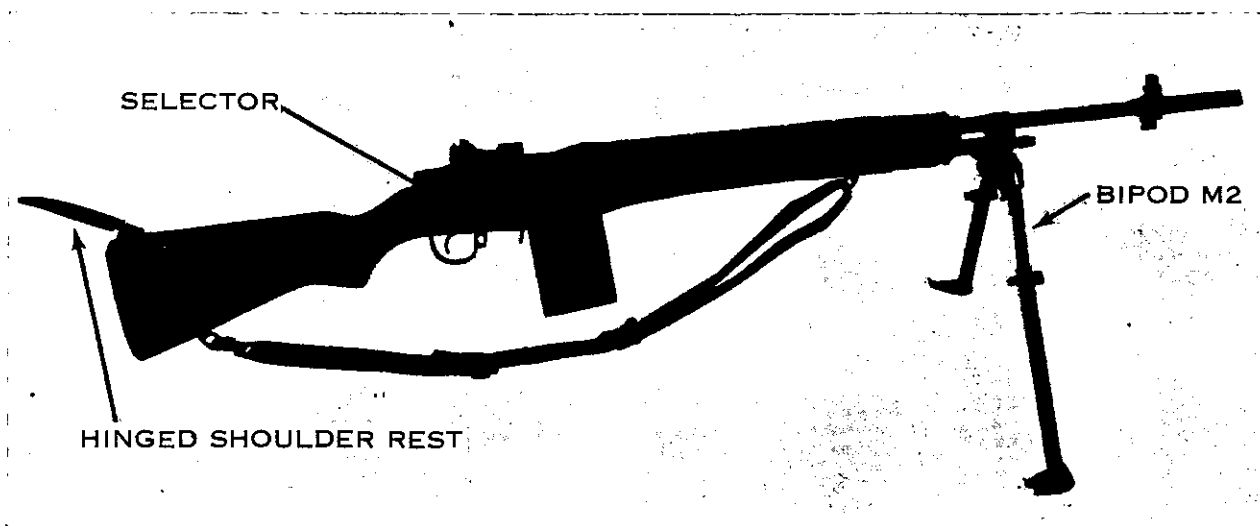

Figure 2. The M14 rifle with selector and M2 bipod.
- (2) When employed as an automatic rifle, the selector and bipod M2 must be installed (fig. 2).
- (3) The flash suppressor is designed with a wide rib on the bottom to reduce muzzle climb and the amount of dust raised by muzzle blast.
- (4) The lug on the rear of the flash suppressor is used to secure a bayonet, a grenade launcher, and a blank firing attachment.
- (5) The spindle valve is used when launching a grenade to prevent gas operation of the rifle, thus avoiding damage to the weapon.